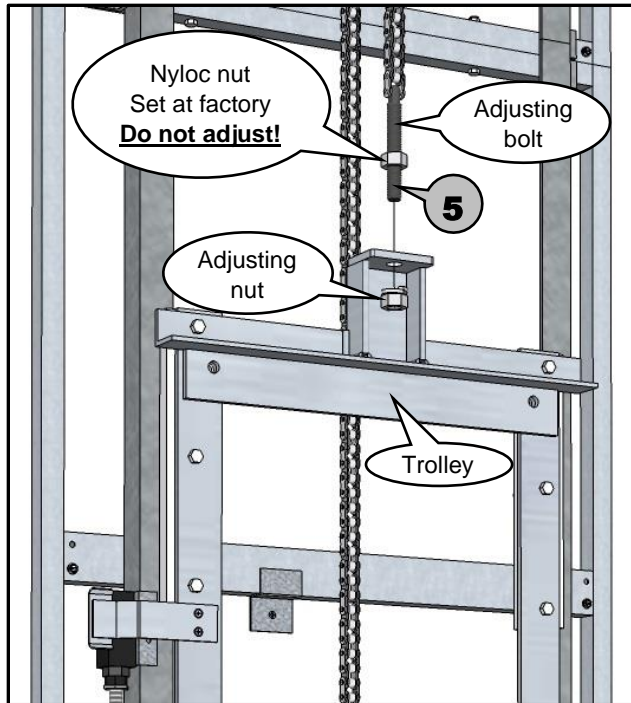

Figure 17
- 4** One end of the chain should hang down behind the trolley and be placed around sprocket on the pillow block. Then use provided master link, attached near the bottom of the trolley with a plastic tie, to connect chain to bottom end of trolley. (see Figure 17)
(see Figure 17)